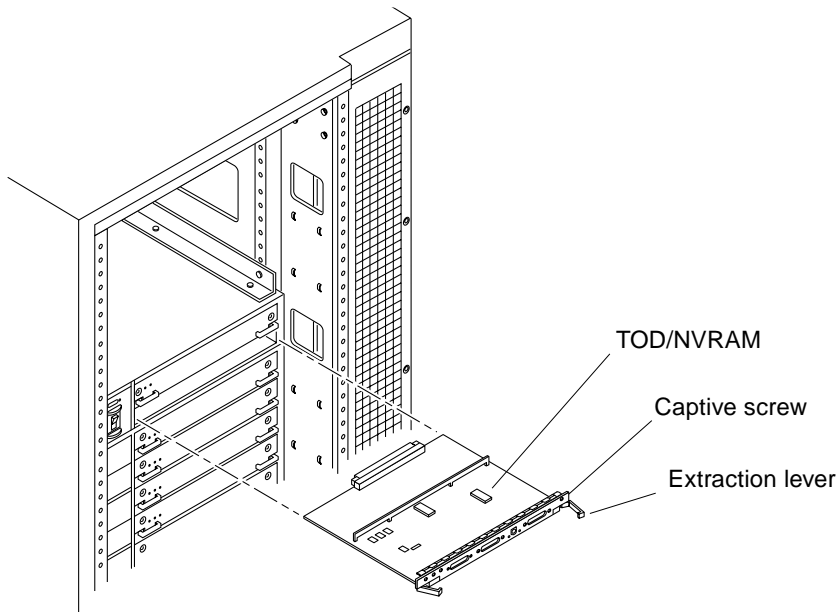

FIGURE 10 Clock Board and TOD/NVRAM Location
2. Pull the ends of both extraction levers outward simultaneously to release the board from the centerplane receptacles (FIGURE 10).